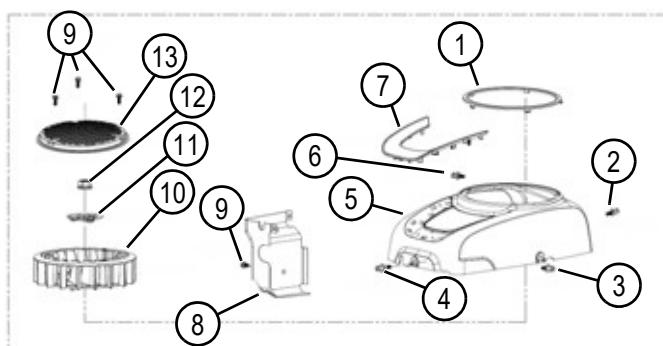

Figure 4-5: Engine Cover Assembly
1. See Figure 4-5. Place one test lead on the ignition coil primary terminal and one on the coil ground as shown to measure primary coil resistance. Be certain grounding point is clean in order to obtain an accurate reading.